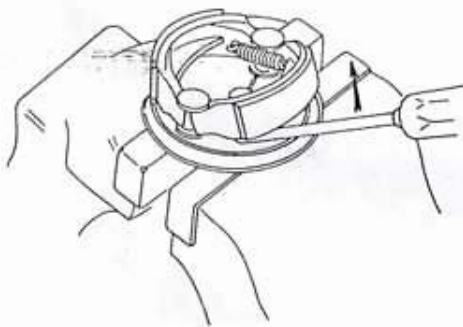

Fig. 1
- Insert a screwdriver between the brake backing plate and one brake shoe and press against it to remove the shoe (fig. 1). Lift the other shoe off the backing plate assembly.